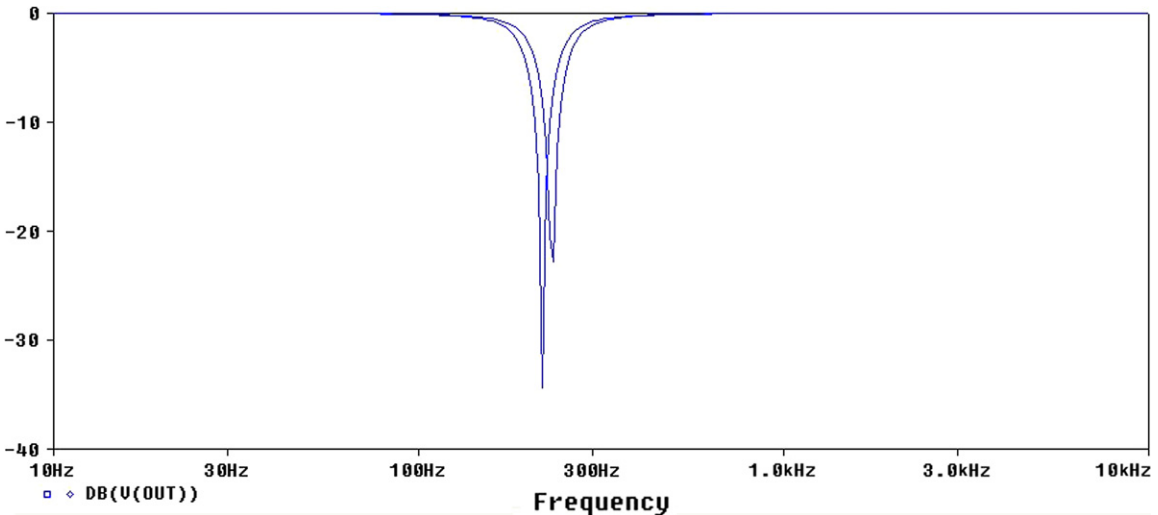

FIGURE 11.16
- 16. Figure 11.16 shows an improvement in the worst case notch frequency, which is given in the summary as 218 Hz (Figure 11.17), being closer to the nominal frequency of 234 Hz.